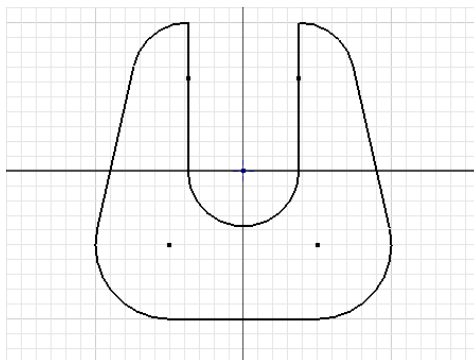

Figure 3-60 The sketch after applying all constraints
11. Select the center point of arc 6; the entire sketch moves to make the origin coincident with the center point of the arc. The sketch after applying all the constraints is shown in Figure 3-60.